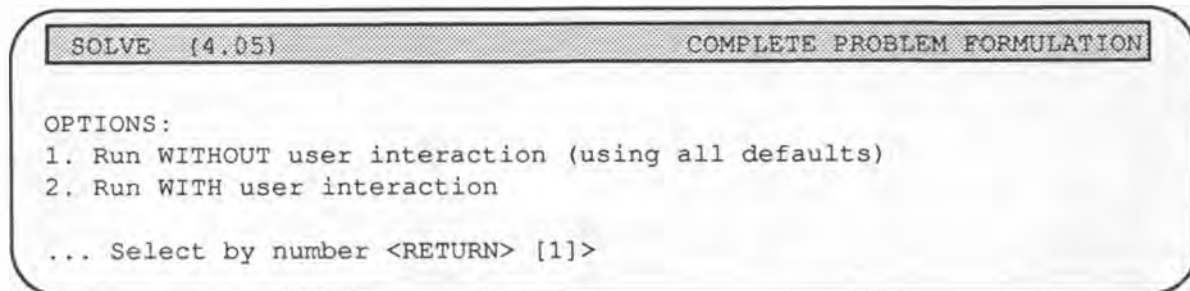

Fig 3.50 Display options
- To run without intervention, press <Enter> (Fig 3.50).